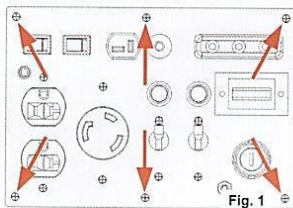

Fig. 1
1. Remove the six (6) screws securing the control panel (Fig. 1) to the generator, and pull the panel outward.